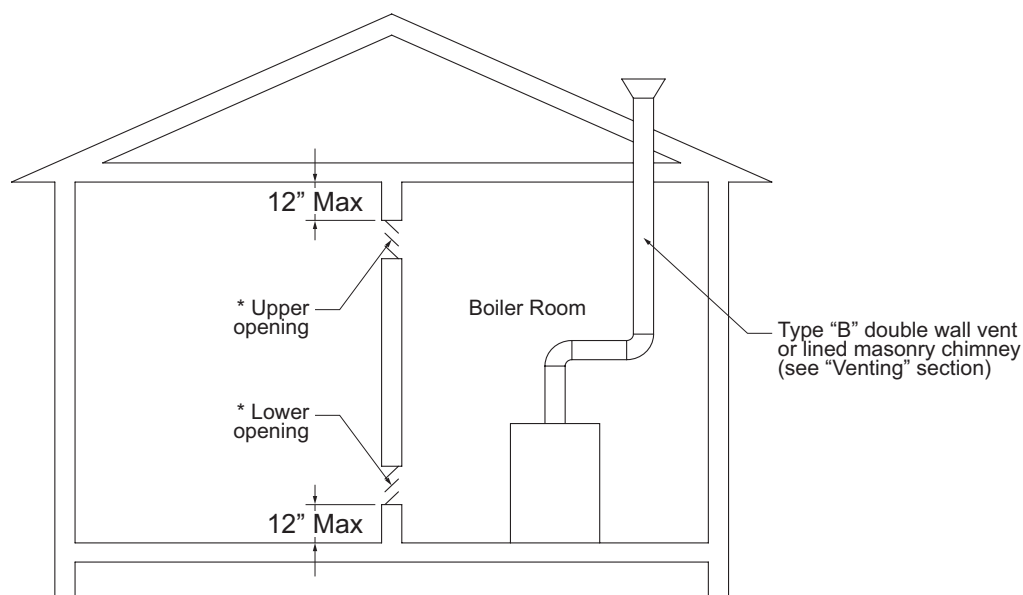

Figure 5.1 (Indoor combustion air method)
- 4) If the result is at least 50 ft³ per 1000 BTU/hr, and neither of the conditions described in (6) below are met, normal infiltration should provide adequate fresh air into the boiler room.
- 5) If the result is less than 50 ft³ per 1000 BTU/hr, provide two openings into the boiler room, one near the floor and one near the ceiling. The top edge of the upper opening must be within 12" of the ceiling and the bottom edge of the lower opening must be within 12" of the floor (Figure 5.1):